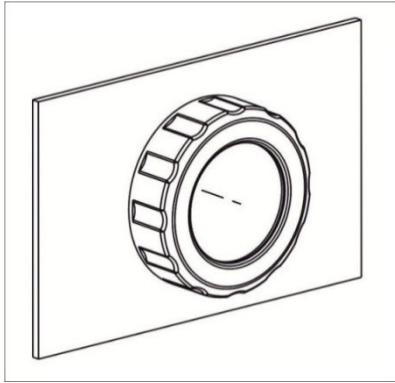

Figure 85 – Assembled outer filter
The external filter (Figures 85 and 86) contains the following elements:
1. Unscrew the washer (5) counterclockwise;
2. Remove the clip (4) from the filter base;
3. Remove the sealing ring (2) from the holder;
4. Carefully remove the filter element (3), avoiding surface creases;
5. Install the filter element into the clip. The "smooth" side of the filter element should face to the glass (Figure 85);